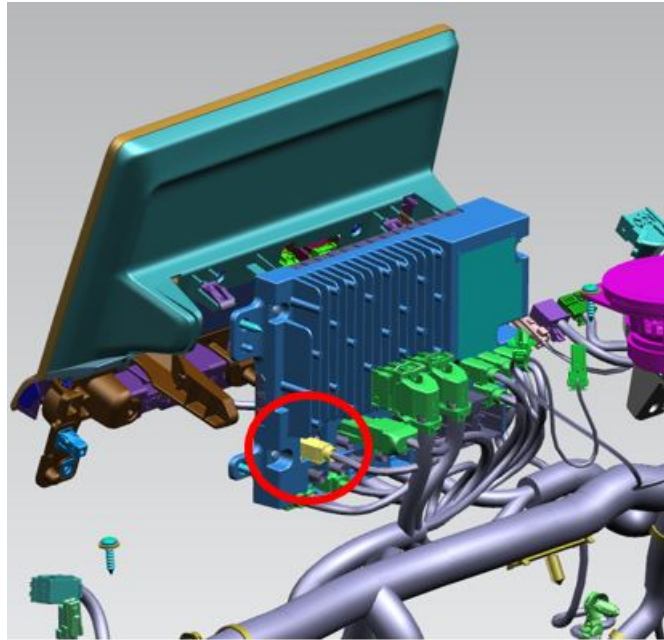

Fig. 3
5. Disconnect the coax connector D2784N (red) from the back of the radio (Silverbox) (Fig. 3) .